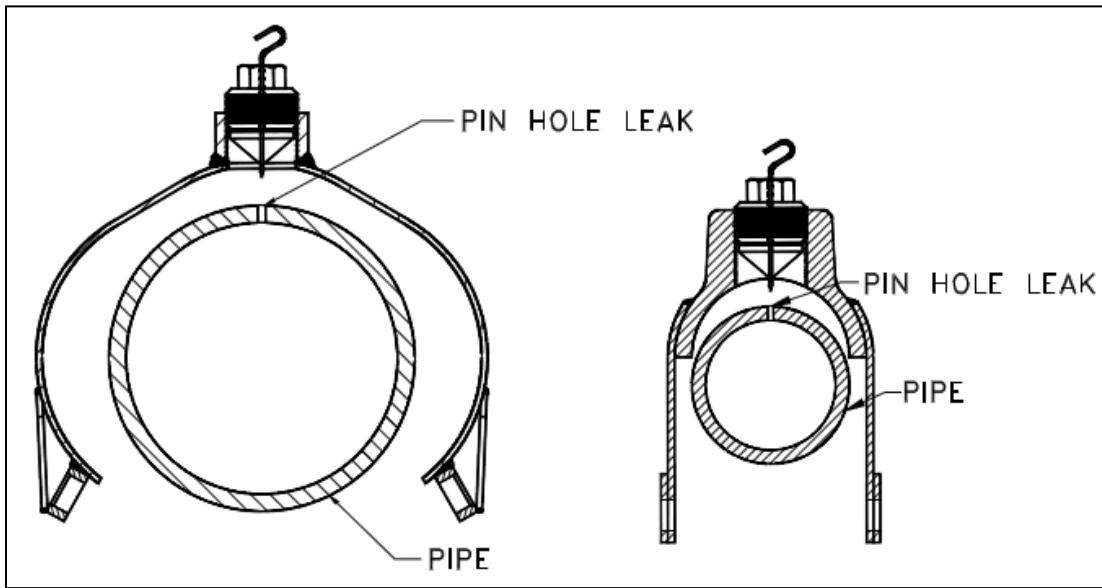

Figure 2
- Remove the drawbolt from the slotted holes on the bottom of the PLIDCO Smith+Clamp and spread the PLIDCO Smith+Clamp open so that it can be assembled around the pipe as shown in Figure 2.